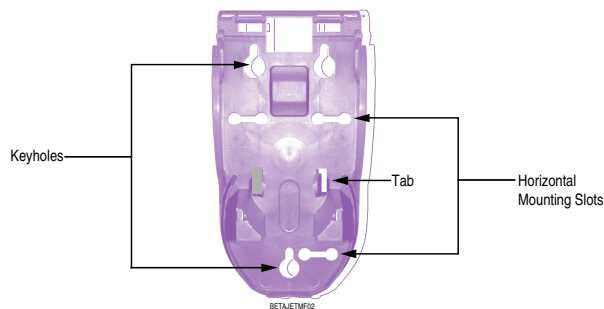

Figure 2. Releasing Venturi from Backplate.
- Squeeze the venturi tab in to release the proportioner from the backplate (see Figure 2).
- Squeeze the venturi tab in to release the venturi from its backplate. (See Figure 2.)